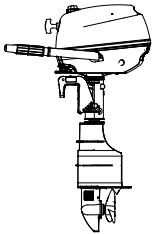
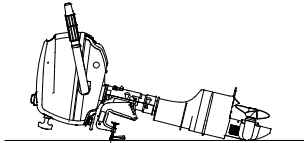
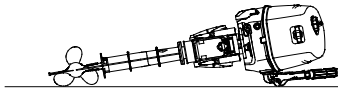
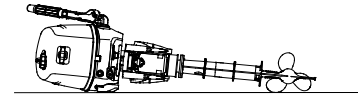

Figure 1
Figure 2
Figure 3
Figure 4
The outboard motor should be upright as shown in the following figure 1 when be in transit. If the engine must be laid down, please be sure to put it as shown in the following figure 2 or figure 3 when be in transit.
- Place a towel or something similar under the outboard motor to protect it from damage when as shown in the figure 2, figure 3 or figure 4 above.